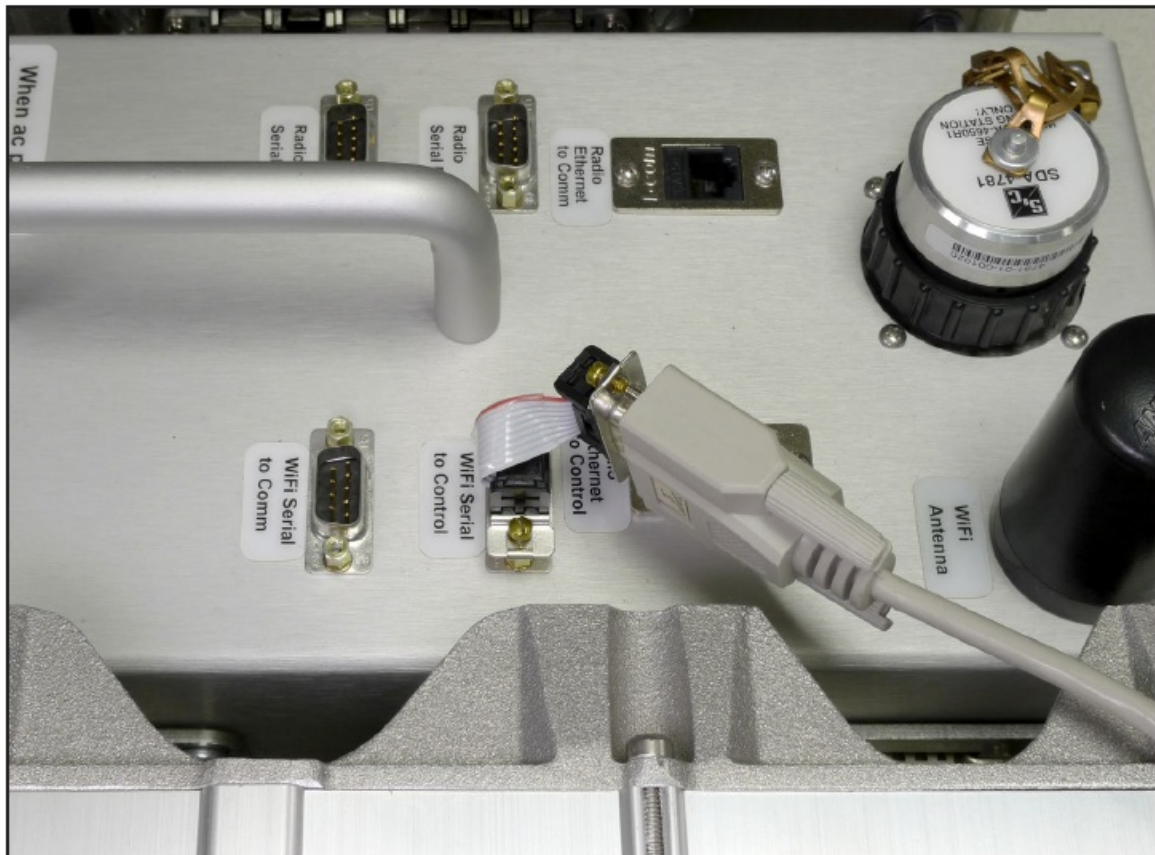

Figure 7. A serial cable connected to the Wi-Fi serial-to-control input.
- **STEP 2.** Locate the serial jumper cable on top of the docking station. It should connect the two ports labeled “Wi-Fi Serial to Control” and “Wi-Fi Serial to Comm.” Unplug the end of the jumper connected to “Wi-Fi Serial to Comm,” and plug the male end of the serial cable into the jumper. See Figure 7. The jumper functions as a gender changer.